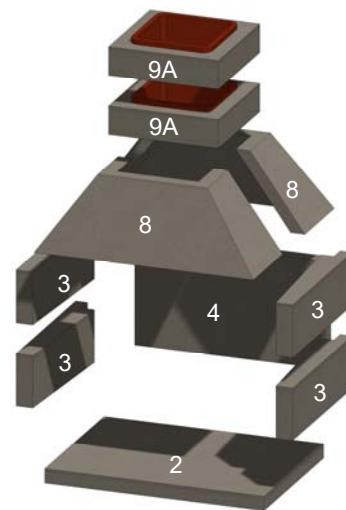
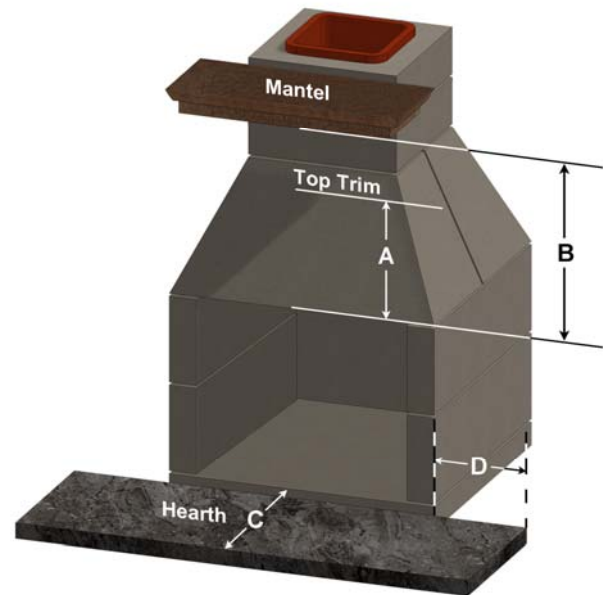

Figure 2. SA-36PS Exploded View
Figure 3. SA-36PS Mantel & Hearth
The fireplace is delivered as a kit with all components necessary to complete the installation. Component arrangements are shown in Figure 2. Components are listed in Table 1. Specifications and clearances are shown in Table 2.
- A. Fireplace items shown in Figure 2 and listed in Table 1.
Note 1: Item numbers refer to component numbers in Figure 2.
Table 2: Clearances (See Figure 3)
Note 5: Clay flue liners installed in flue section (item 9A, Figure 2) meet the specifications of ASTM Section C315-02.
Select a location in the home plans or outdoor living area where all the minimum distances, as shown in Table 2 and Figure 3 can be met. Proceed as follows. Numbers in () are item numbers from Table 1 and Figure 2. Ensure the base on which the fireplace is to be installed is a solid and level foundation and is composed of non-combustible material, such as concrete.
If this is your first Stone Age installation, it is suggested that you first assemble the components without mortar to familiarize yourself with how the components fit together. See Figure 2.